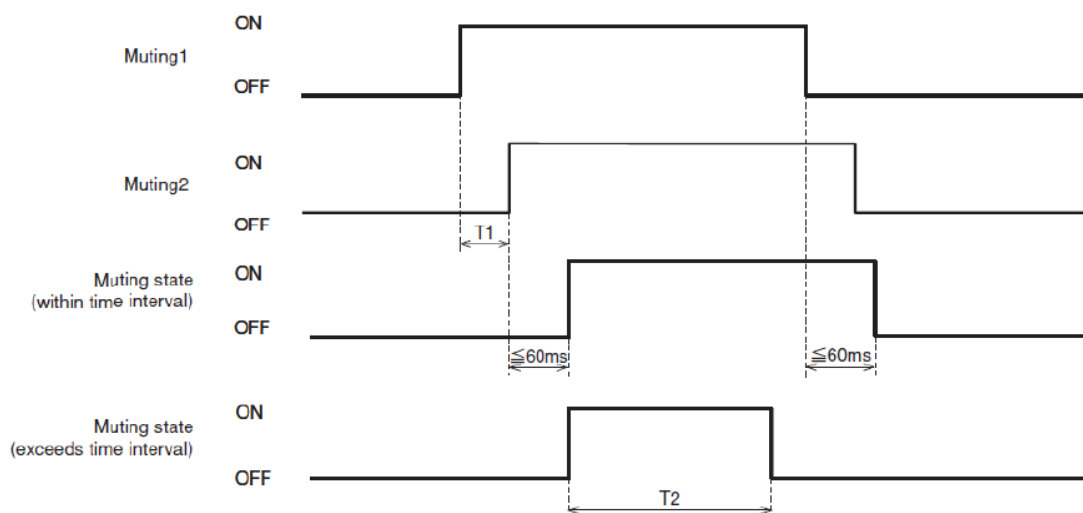

Figure 4-7 Muting sequence
- When the predefined (preset) maximum muting time  $T_2$  exceeds (1 minute and above) (Figure 4-7).
Figure 4-7 shows the muting sequence.